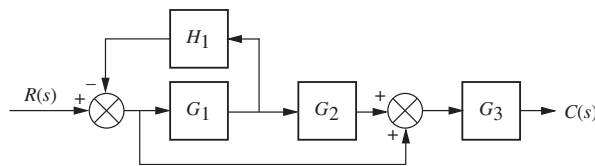

FIGURE I-5.1
1. Find the closed-loop transfer function,  $T(s) = C(s)/R(s)$  for the system shown in Figure I-5.1, using block diagram reduction. [Section: 13.2]